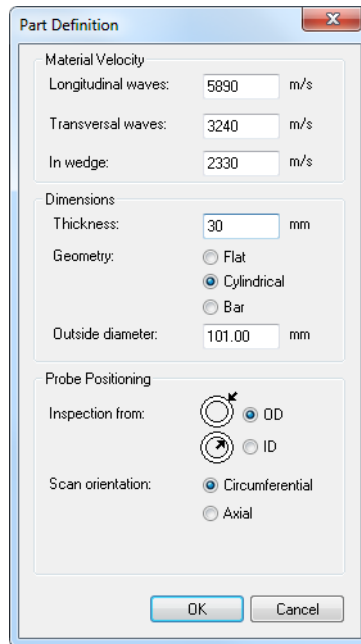

Figure 7-65 The Part Definition dialog box
4. In the **Part Definition** dialog box that appears (see Figure 7-65 on page 406), define the specimen as follows: